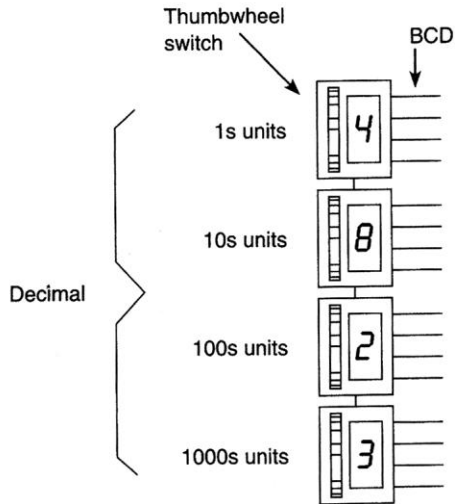

Figure 10-12 Thumbwheel switch for question 19.
19. The BCD value for the thumbwheel switch setting of Fig. 10-12 would be 19._____